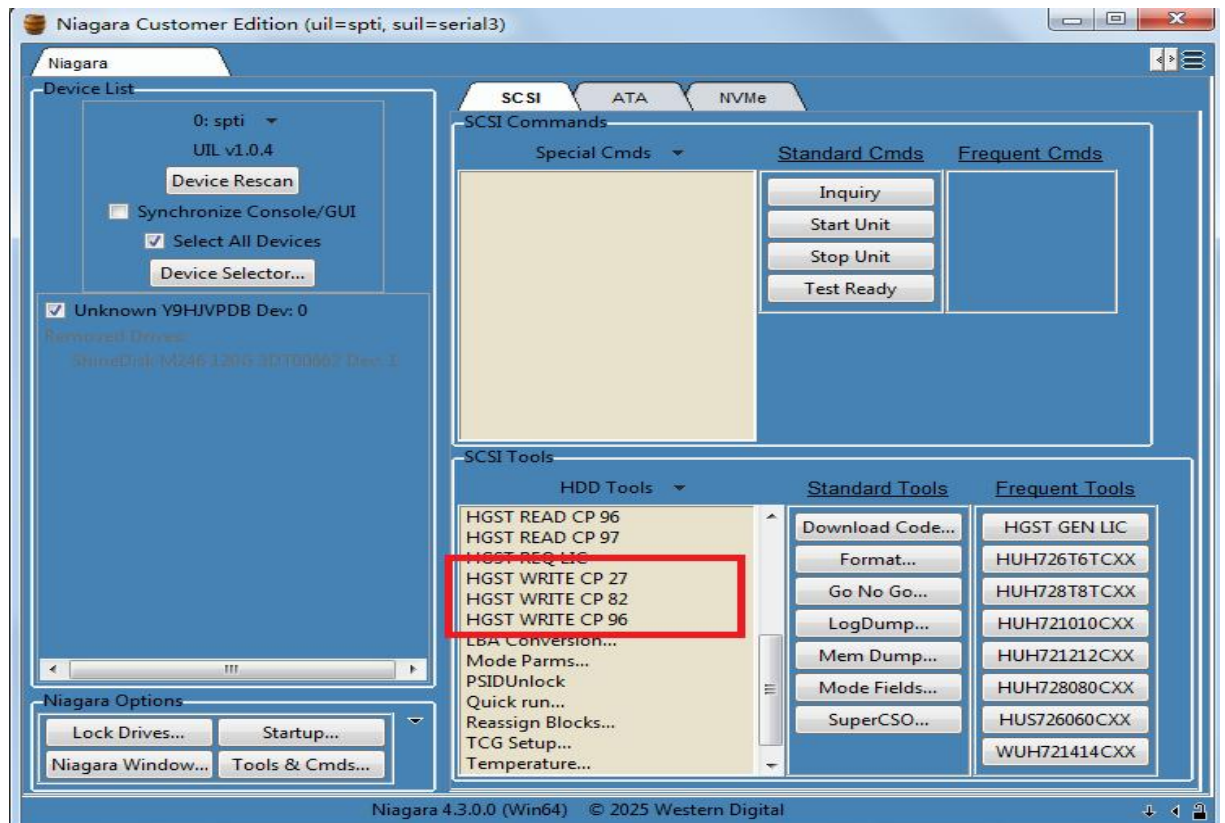

Figure 6 WRITE DISK MODULE
Click HGST WRITE MODULE to write module information from the SN folder to the HDD (Figure 6).
2. Select ****Advanced****, ****Mode 111b****, and ****32 Chunks**** (Figure 6).